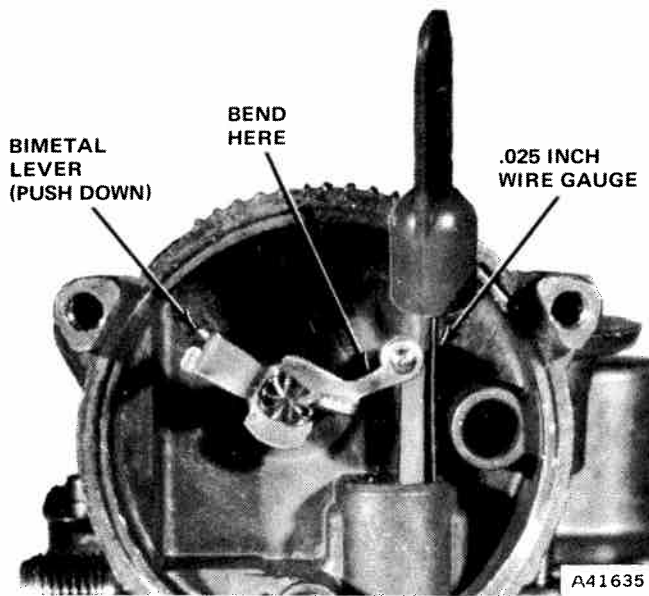

Fig. 4-26 Initial Choke Valve Clearance Adjustment
(1) Bend a 0.025-inch wire gauge at a 90-degree angle approximately $\frac{1}{8}$ inch from end. Partially open throttle and close choke valve to position choke piston at top of its bore.
(2) Holding choke valve fully closed, release throttle and insert wire gauge into piston slot and against out-board side (right side of choke shaft) of piston bore. Push piston downward with gauge until bent end of gauge enters slot in piston bore. With gauge in place, push on choke shaft bimetal lever in counterclockwise direction to move piston upward, locking gauge in place (fig. 4-26).
(3) Measure clearance between lower edge of choke valve and air horn wall (refer to Carburetor Service Specifications for the correct setting).